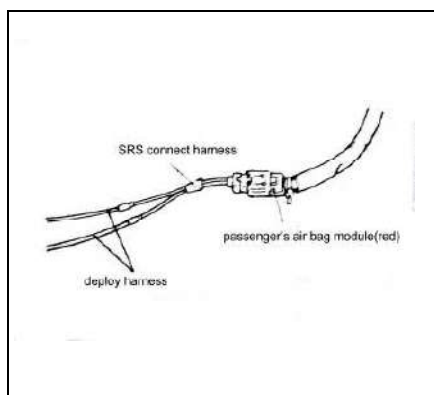

Fig 19-41
- ④Connect the SRS air bag adapter harness to the front passenger's air bag module 2-pin connector (red) and route the deployment harnesses out of the vehicle. (See fig 19-41)
- ⑤ Close all the doors with the windows fully closed and put a cover over the vehicle to minimize report.